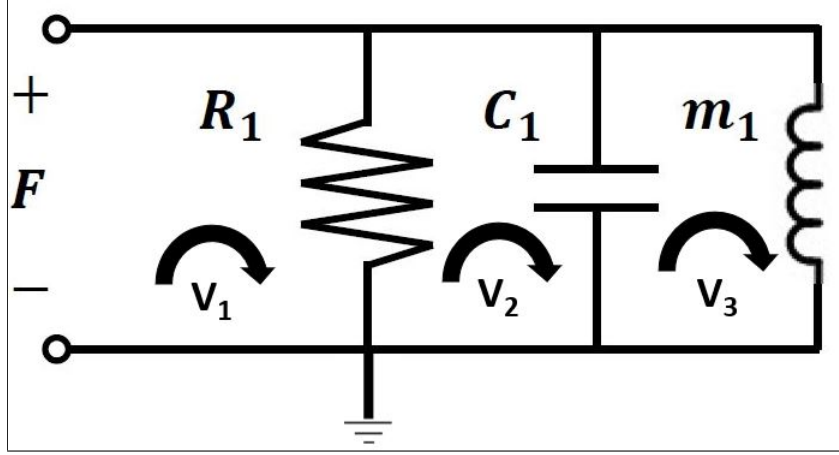

Figure 3: Electrical Equivalent Circuit of 1b
Here is the electrical circuit and its mechanical equivalent diagram on Figure 3 and 4 respectively.
In the LaPlace Domain, unique equations of the circuit can be written using mesh analysis in Equation (5). Look at Figure 3 for the labeled velocities currents: v_1, v_2, v_3 .